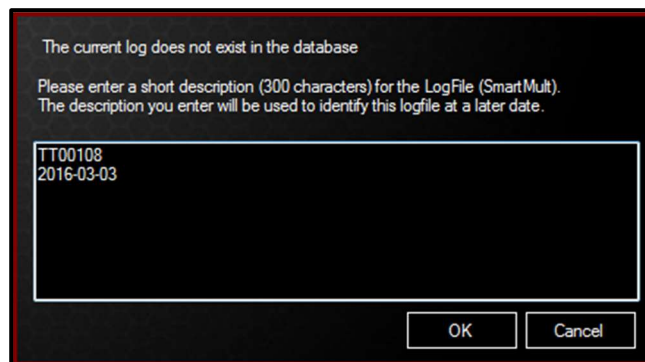

Figure 5.3-2: Log Descriptions
3. You will be prompted to add descriptions of the Data Logs once the Log file has been downloaded (Figure 5.3-2). These descriptions should contain information to help you identify the data later.